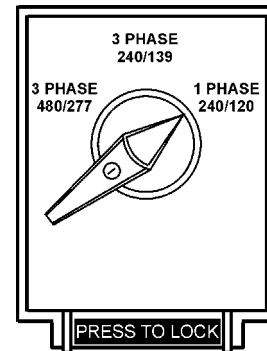

Figure 42. Voltage Selector Switch
1. Place the **voltage selector switch** in the desired voltage position (Figure 42)..